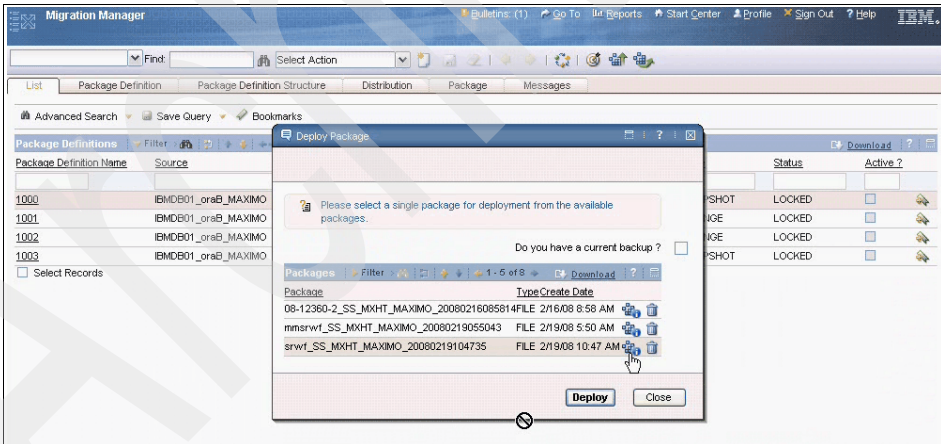

Figure 8-49 View selected package manifest
- To view general information about the package prior to deployment, you can click the **Package Information** button, as shown in Figure 8-49.